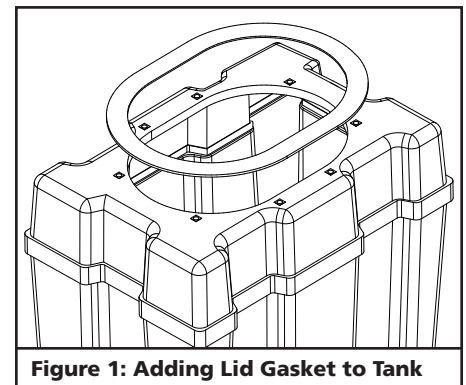

Figure 1: Adding Lid Gasket to Tank
2. Apply gasket to top of tank, just outside the opening. (See Figure 1)